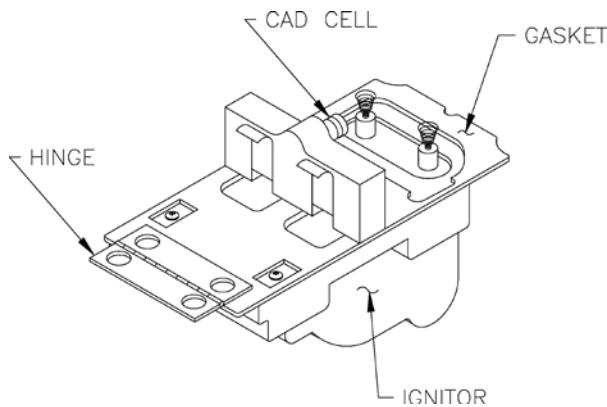

Figure 27: Cad Cell Location
- If safety switch shuts down burner and resistance is above 1600 OHMS, open line switch to boiler. Access cad cell under ignitor, clean face of cad cell and see that cell is securely in socket, see Figure 27. Check gasket around perimeter of ignitor lid for proper seal. If gasket is missing or damaged, replace gasket. Room light can effect cad cell resistance. Reset safety switch.